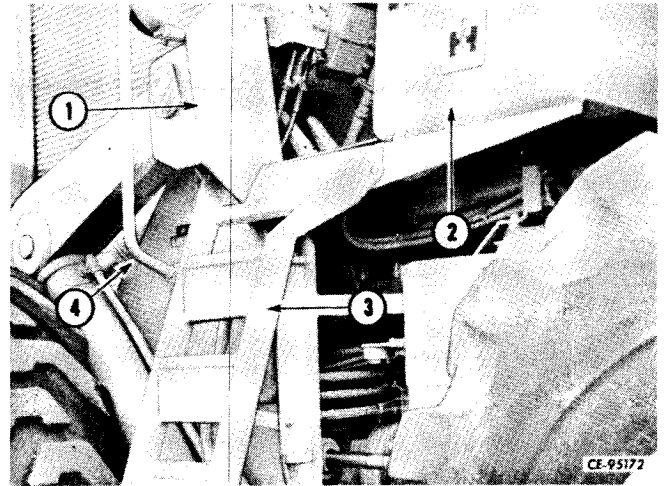

Figure 4-7
Remove the cap screws that secure the ladders (3, Fig. 4-7) and hand rail (4) to the front frame (1) and the operator's compartment (2). Remove ladders.